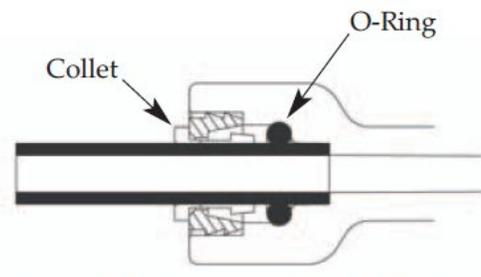

Figure 7
- Push tubing through collet, until it engages the o-ring. See Figure 6. Continue pushing until the tube is flush against the back of the fitting. See Figure 7. A common mistake is to stop pushing when the tube engages the o-ring. This will lead to future leaks. When a 1/4" tube is fully engaged, 11/16" of the tube has entered the fitting. When a 3/8" tube is fully engaged, 3/4" of the tube has entered the fitting. See Figures 6-7.